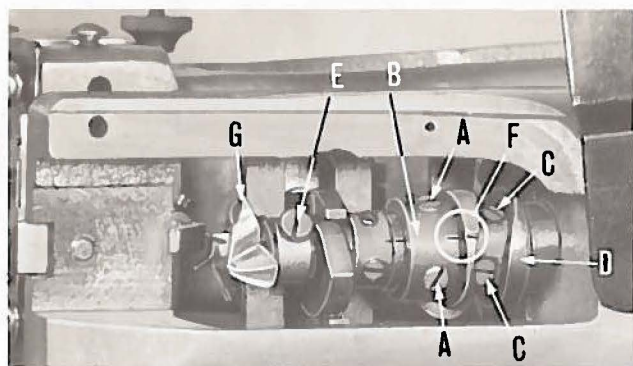

Fig. 8
To make this adjustment, loosen set screws (A, Fig. 8) in the sleeve (B), slide sleeve forward slightly and retighten one of the screws enough to prevent the sleeve sliding on the shaft during adjustment. Now, loosen screws (C) in cam (D) and slide cam in the direction necessary to secure the proper clearance between the loop positioning finger and the needle. Tighten one of the screws in the cam and slide the sleeve back so that it contacts the cam.